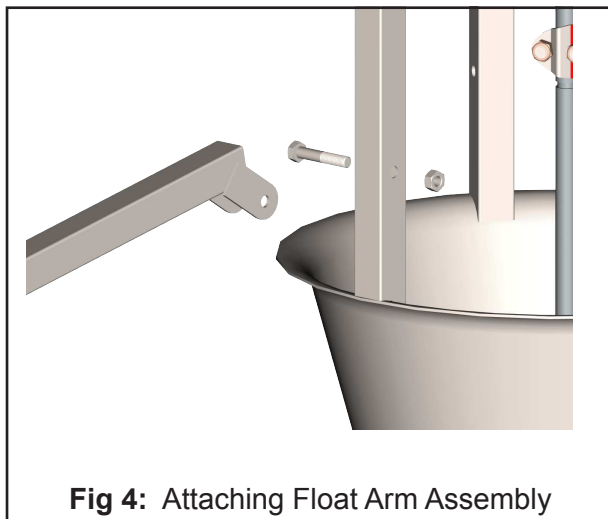

Fig 4: Attaching Float Arm Assembly
STEP 3: Attach the Float Arm Assembly to the Dish Assembly with provided bolts and nylock nuts. (See **Figure 4 & 5**)